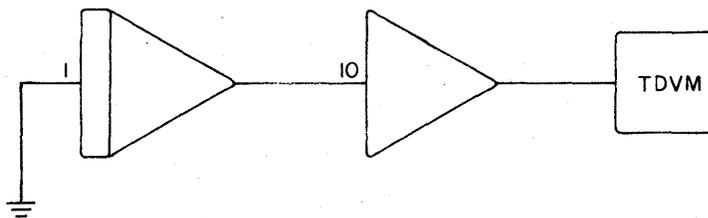

FIGURE 2.2-5 INTEGRATOR DRIFT-RATE TEST SETUP
- (b) Place both function switches in the left (L) position; record the TDVM reading.
- (c) Place both function switches in the right (R) position; record the TDVM reading.
(3) Integrator Drift Rate
- (a) Set up the test circuit shown in Figure 2.2-5. Place the computer in the reset mode.